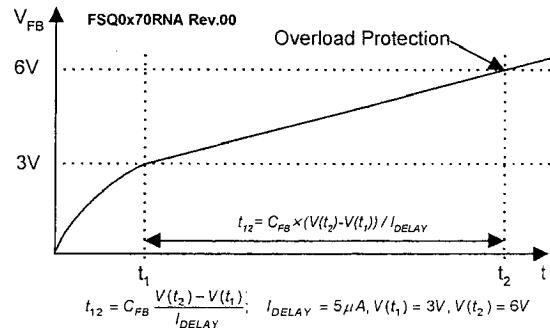

Figure 15. Overload Protection (OLP)
4.1 Overload Protection (OLP): Overload is defined as the load current exceeding a pre-set level due to an unexpected event. In this situation, the protection circuit should be activated to protect the SMPS. However, even when the SMPS is operating normally, the OLP circuit can be activated during the load transition. To avoid this undesired operation, the OLP circuit is designed to be activated after a specified time to determine whether it is a transient situation or a true overload situation. In conjunction with the I_{PK} current limit pin (if used), the current mode feedback path limits the current in the SenseFET when the maximum PWM duty cycle is attained. If the output consumes more than this maximum power, the output voltage (V_O) decreases below nominal voltage. This reduces the current through the opto-coupler LED, which also reduces the opto-coupler transistor current, thus increasing the feedback voltage (V_{FB}). If V_{FB} exceeds 3V, the feedback input diode is blocked and the 5μA current source (I_{DELAY}) starts to slowly charge C_{FB} up to V_{CC} . In this condition, V_{FB} increases until it reaches 6V, when the switching operation is terminated, as shown in Figure 15. The shutdown delay time is the time required to charge C_{FB} from 3V to 6V with 5μA current source.